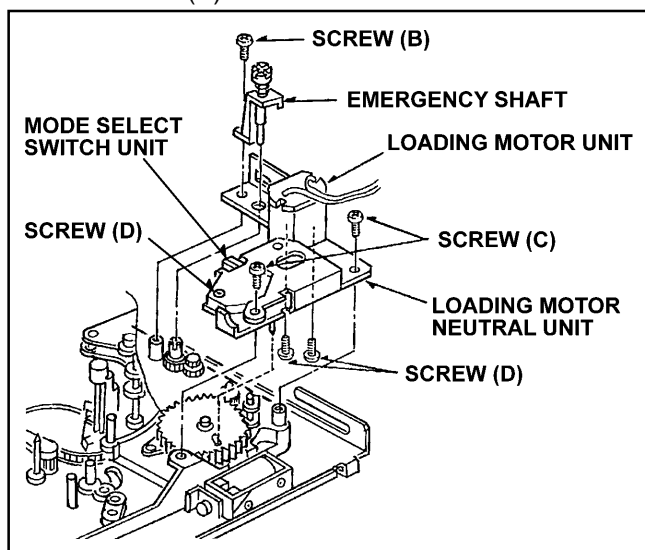

Figure 5-10
2. Remove the Pinch Solenoid Unit. (Refer to item 5-7).
3. Unscrew the screw (B), and remove the Emergency Shaft as shown in Figure 5-10.
4. Unscrew the 2 screws (C) and remove the Loading Motor Neutral Unit as shown in Figure 5-10.
5. Unscrew the 2 screws (D) and remove the Loading Motor Unit as shown in Figure 5-10.